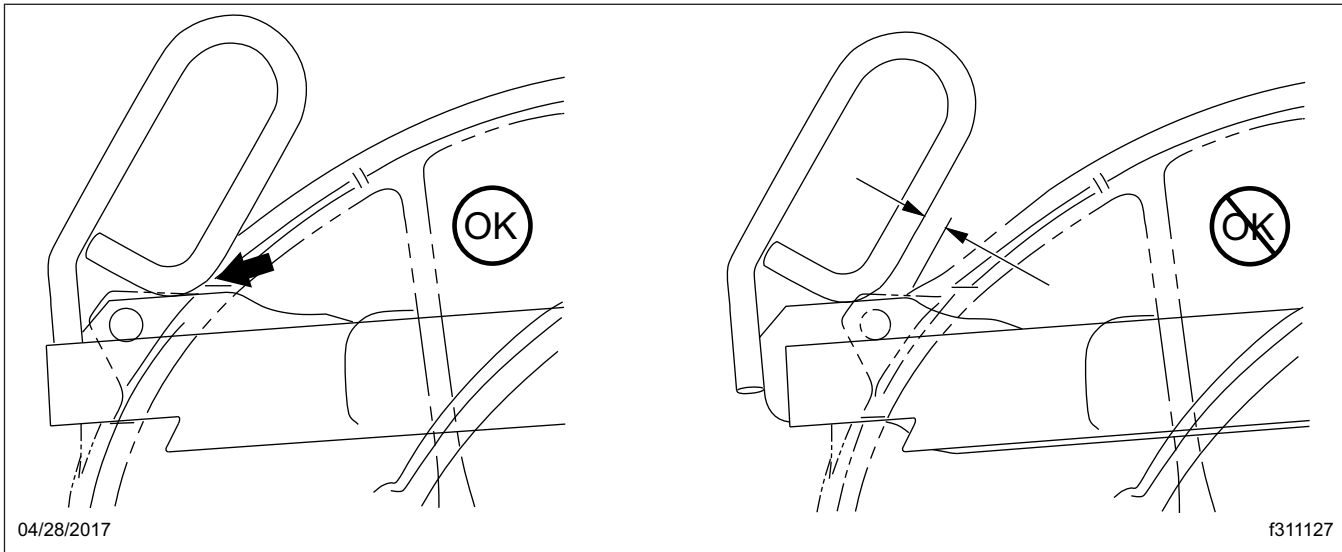

Fig. 17.8, Jost Release Handle Locked
11. Ensure that the release handle is in the locked position adjacent to the casting. See Fig. 17.8.